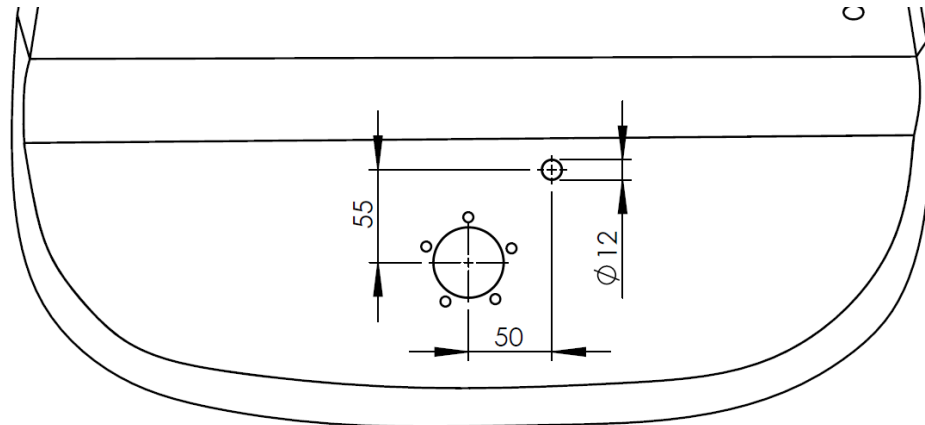

Figure 1: Position of the dia. 12mm hole for the smoke oil limit switch
10. Drill a hole with dia. 12mm in the smoke tank shell. Refer to Figure 1 for the correct position.